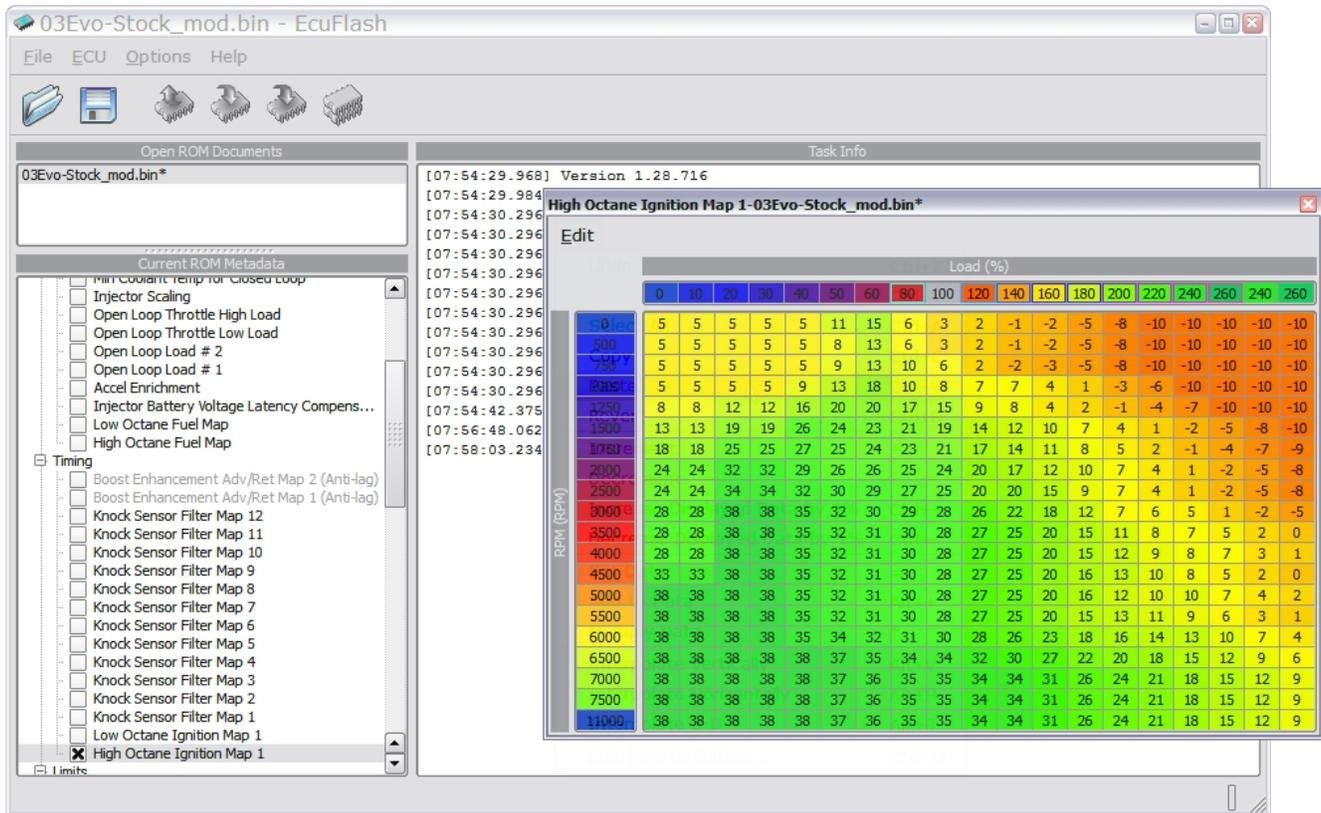

Figure 9, modified 2003 Evolution VIII ECU High Octane Ignition Map, load column headers moved
- o The map should now look like the map in figure 9. There should be two 240 and two 260 column headers.